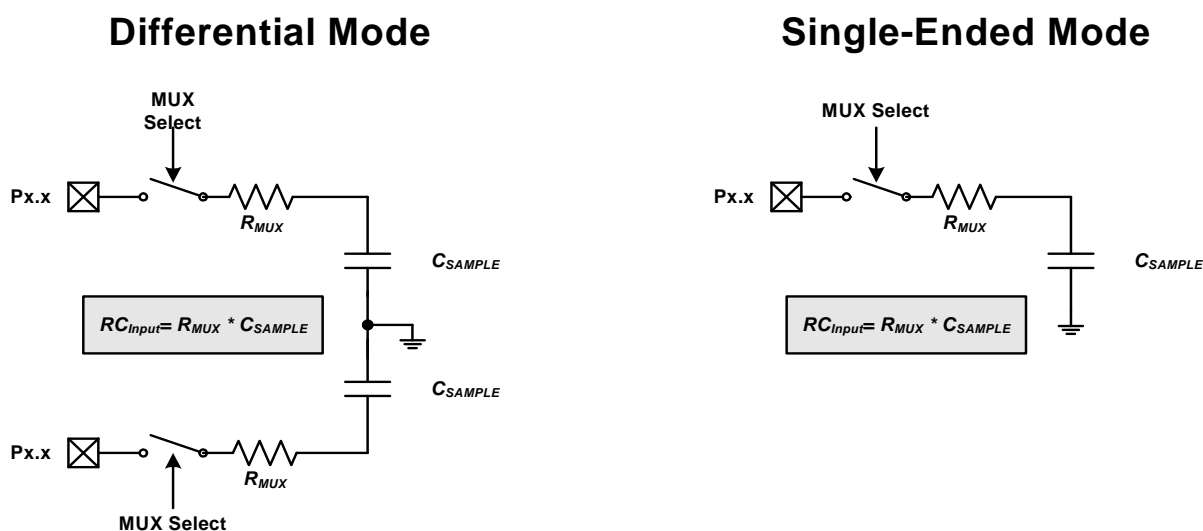

Figure 6.5. ADC0 Equivalent Input Circuits
Figure 6.5 shows the equivalent ADC0 input circuit. The required ADC0 settling time for a given settling accuracy (SA) may be approximated by Equation 6.1. See Table 5.10 for ADC0 minimum settling time requirements as well as the mux impedance and sampling capacitor values.